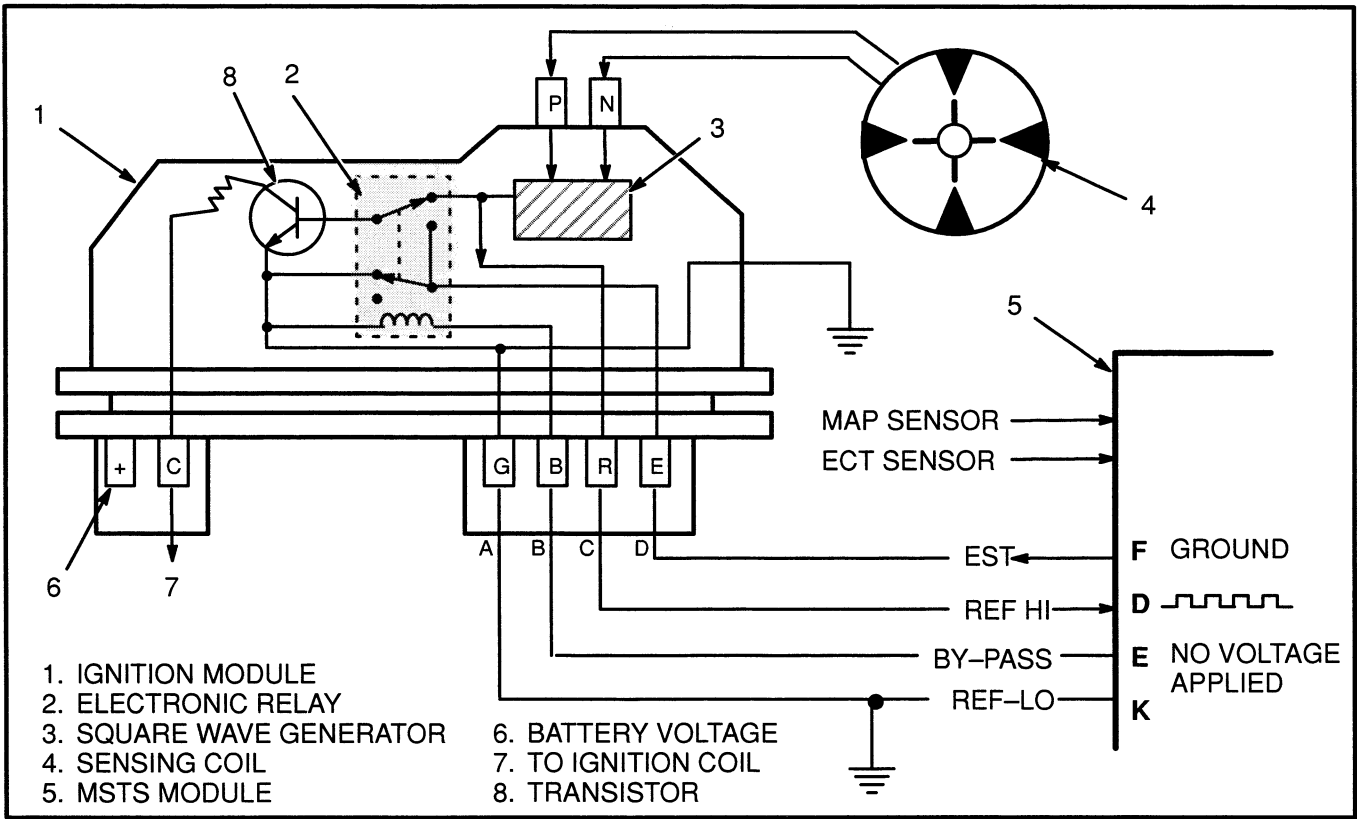

FIGURE 3. IGNITION MODULE WHEN ENGINE IS BEING STARTED
The ignition module is a solid-state electronic device that operates like a fast switch except that it does not have any moving or mechanical parts. See FIGURE 3. Small electrical pulses from the sensing coil of the pulse generator go to the ignition module.
See FIGURE 3. When the engine is rotated by the starter, the electronic relay (2) is in the deenergized position. The sensing coil is connected through the square wave generator (3) to the base of the transistor (8).